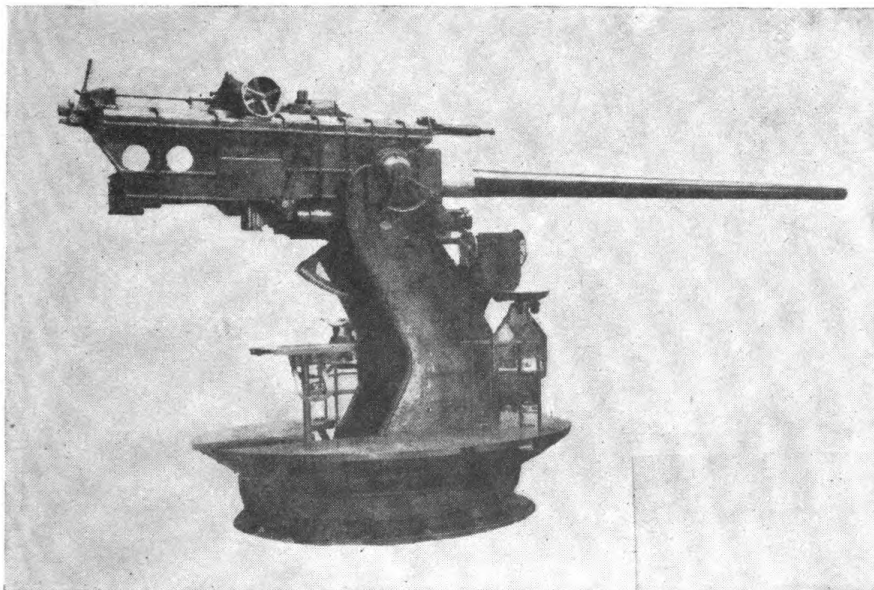

FIGURE 12.—105-mm gun (right side).
A. Practical demonstration on the gun. See also figures 12, 13, 14, and 15.